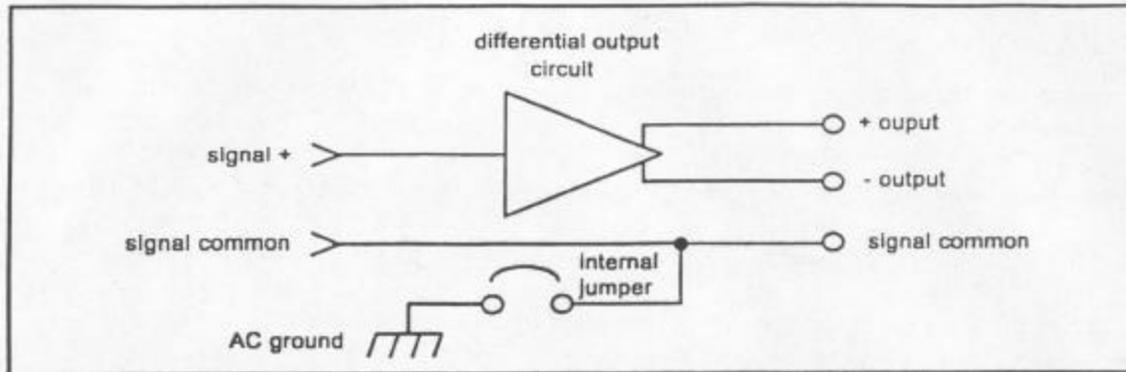

Figure 2 – Output Connections
4. Connect the output cables for either balanced or unbalanced operation, paying careful attention to the connections shown in Figure 2. Note: For unbalanced operation, audio negative must be connected to signal common, otherwise a 6dB loss in signal level will result.